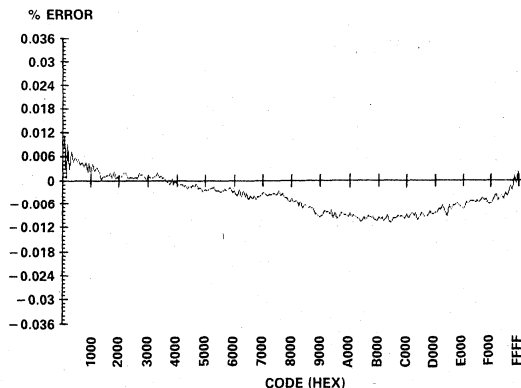

Figure 4. Typical Linearity
**LINEARITY ERROR:** Analog Devices defines linearity error as the maximum deviation of the actual, adjusted DAC output from the ideal output (a straight line drawn from 0 to FS-1LSB) for any bit combination. The AD569's linearity is primarily limited by resistor uniformity in the first divider (upper byte of 16-bit input). The plot in Figure 4 shows the AD569's typical linearity error across the entire output range to be within  $\pm 0.01\%$  of full scale. Maximum linearity error at 25°C for the AD569's JN and AD grades is specified as  $\pm 0.04\%$ , and is  $\pm 0.024\%$  for the KN and BD versions.